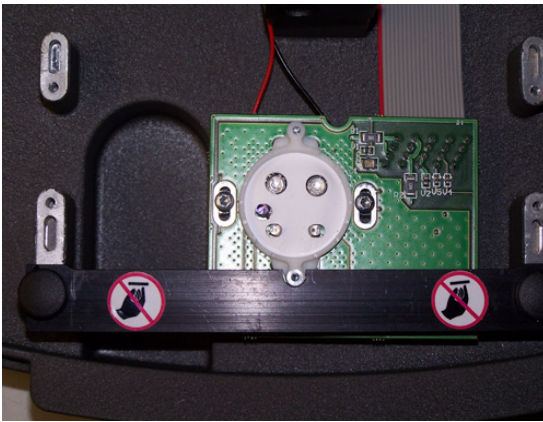

Fig. 17
6. The LED board should now be exposed. (Fig. 17)